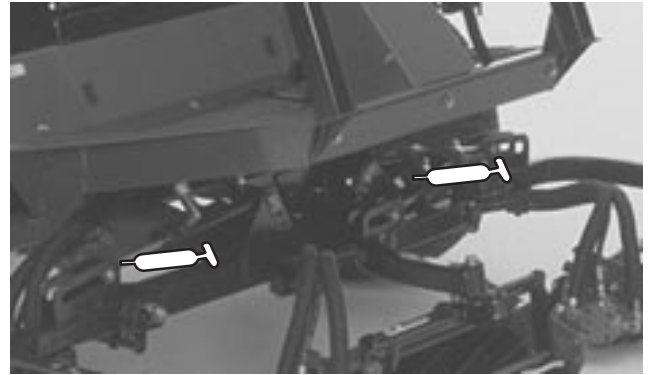

Figure 41
- Lift cylinders (5) (Fig. 41)